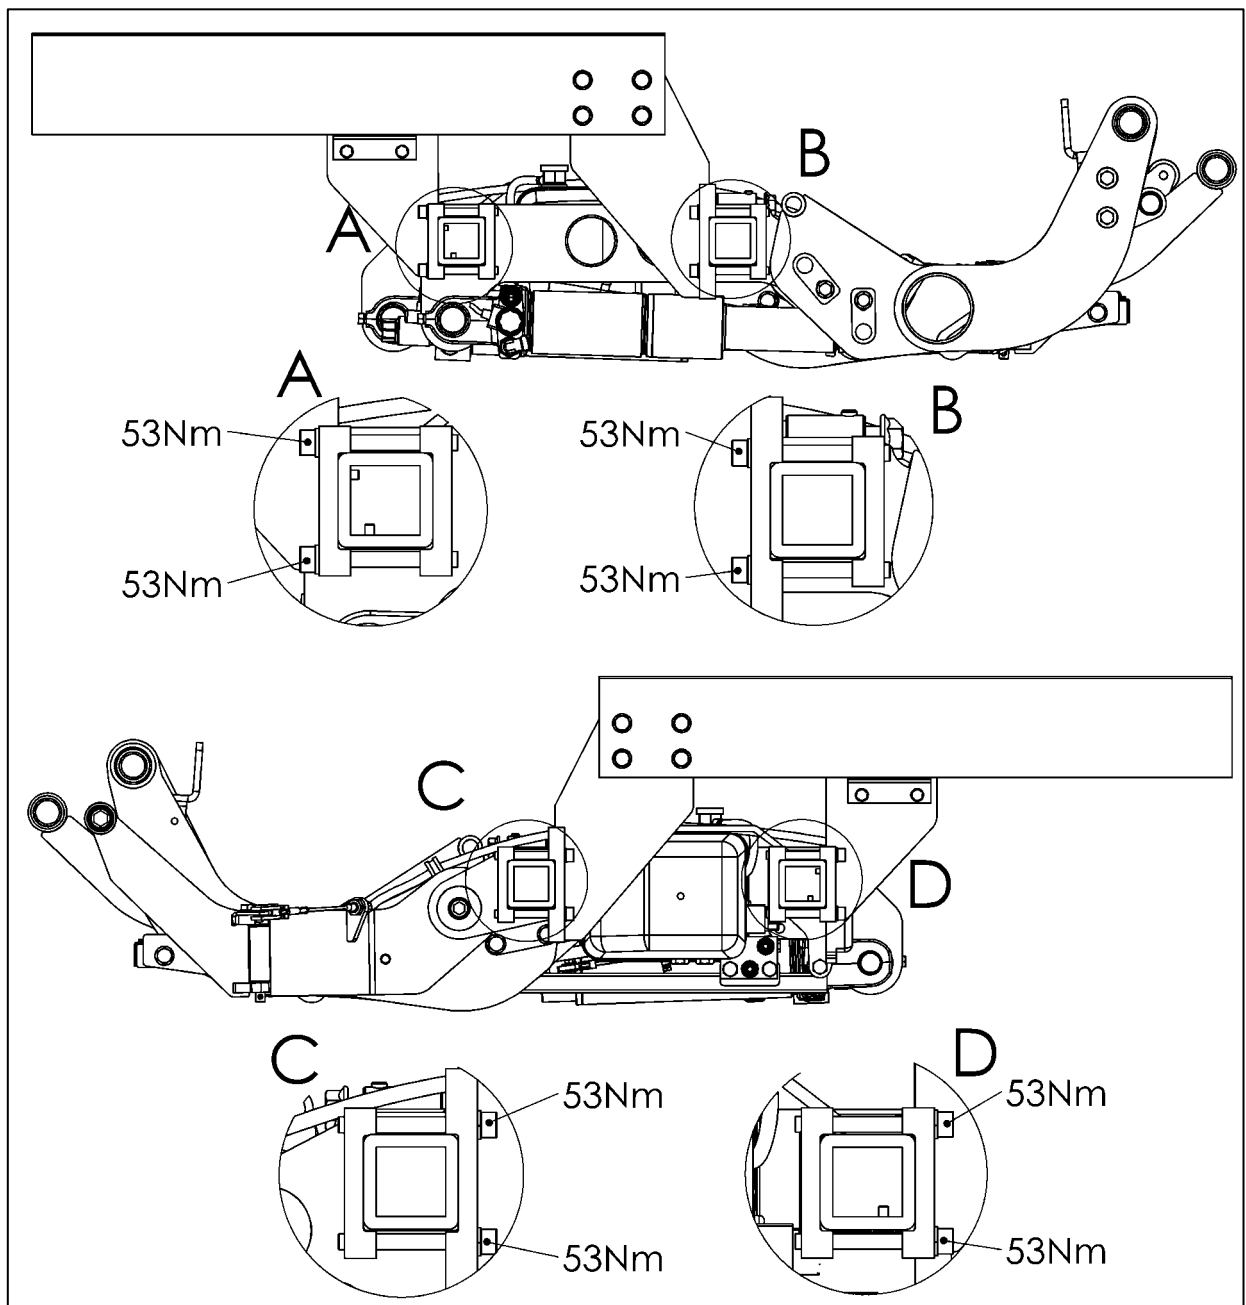

Fig. 30
- Secure the installation adapters to the lifting gear and tighten to the specified torque of **53 Nm** (see Fig. 30).